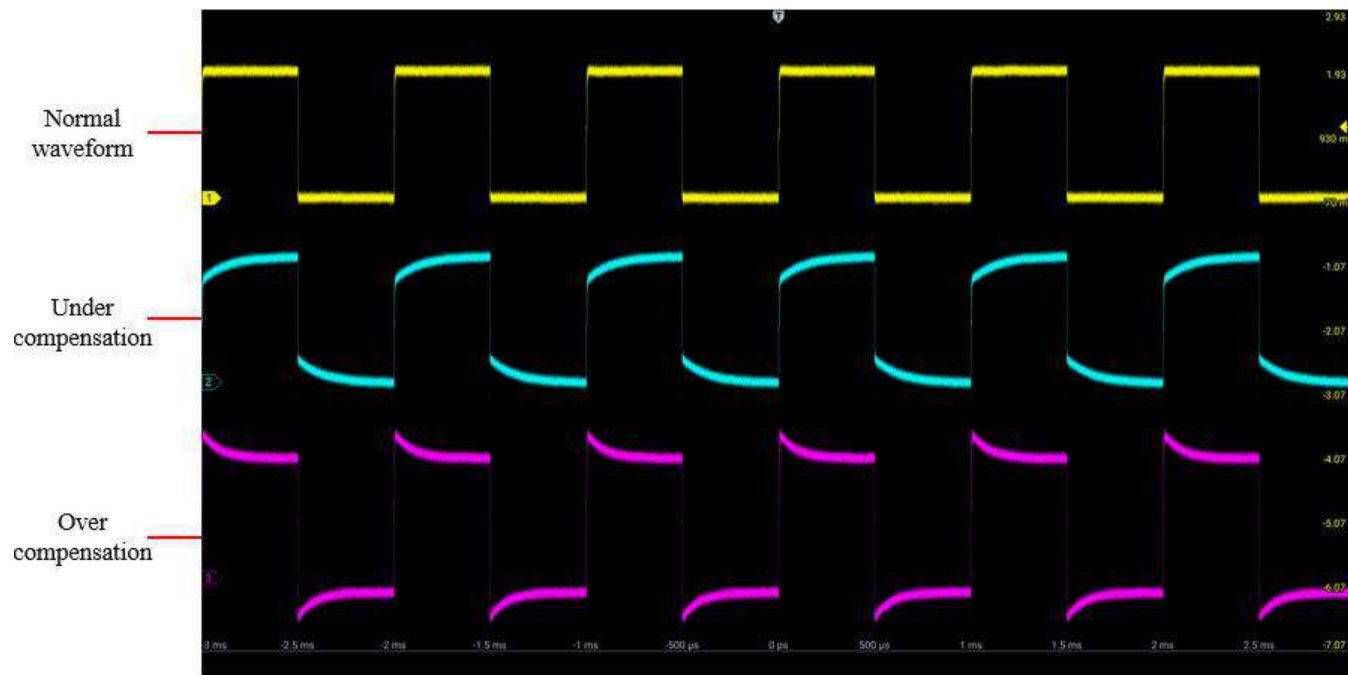

Figure 2-13 Probe Compensation
- 6) Tap  button or manually adjust the waveform vertical sensitivity and horizontal time base. Observe the waveform. As shown in Figure 2-13.